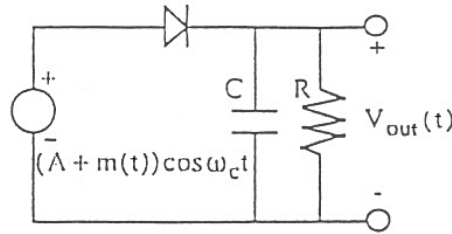

Figure 5.2: Envelope detector for AM signal
4. The envelope detector of Figure 5.2 requires that the designer correctly choose the values for  $R$  and  $C$ . Use Equation (5.3) to calculate the range of the product  $RC$  for AM signals with the different modulation indices  $\mu = 0.99$ ,  $0.75$ , and  $0.5$ . Use  $B = 500$  Hz and  $\omega_c = 2\pi f_c = 2\pi \cdot 100$  kHz.
Consider the signal  $X_{AM}(t)$  as in Eq. (5.1) and recall that  $A + m(t)$  is the envelope of this signal. A simple RC circuit with a diode operates as an envelope detector as in Figure 5.2.
1. Build the envelope detector shown in Figure 5.2. Use a varistor in this circuit.